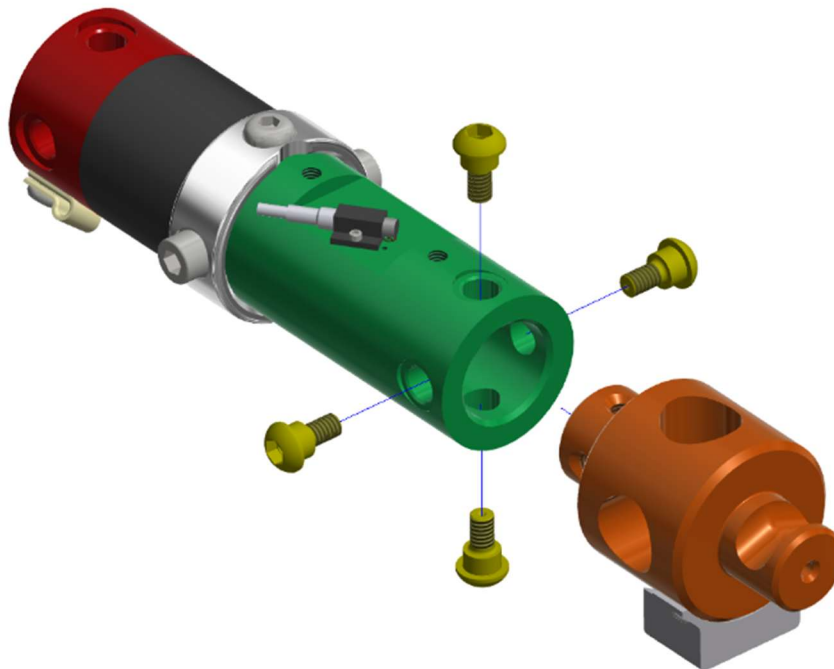

Figure 10-13. Remove the Lower Tibia Load Cell (SA572-S104)
10.2.9 Remove the Lower Tibia Load Cell (SA572-S104) by removing four Modified Thread M6 BHSS (Figure 10-13).